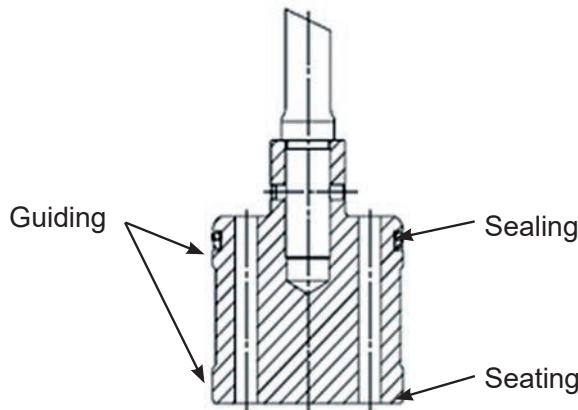

Figure 3 - Plug Guiding, Sealing & Seating Surfaces
5.1.2 Drilling the pin hole (Figure 3 and Table 4)